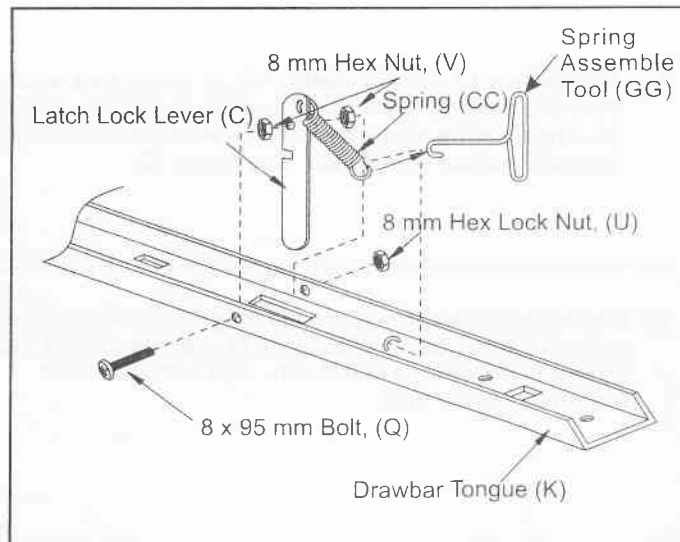

FIGURE 9
14. Place the latch lock lever (C) through the slot in the draw bar tongue (K) as shown in figure 9. Assemble the 8 x 95 mm bolt (Q) through the tongue, the lever and two 8 mm hex nuts (V) (one on each side of the lever). Assemble the 8 mm hex lock nut (U) onto the end of the bolt and tighten so that the bolt can still rotate freely. Tighten the two hex nuts (V) against the sides of the lever, centering it in the slot. See figure 9.
5. Attach the spring (CC) to the end hole in the latch lock lever and to the center hole in the draw bar tongue as shown in figure 9.